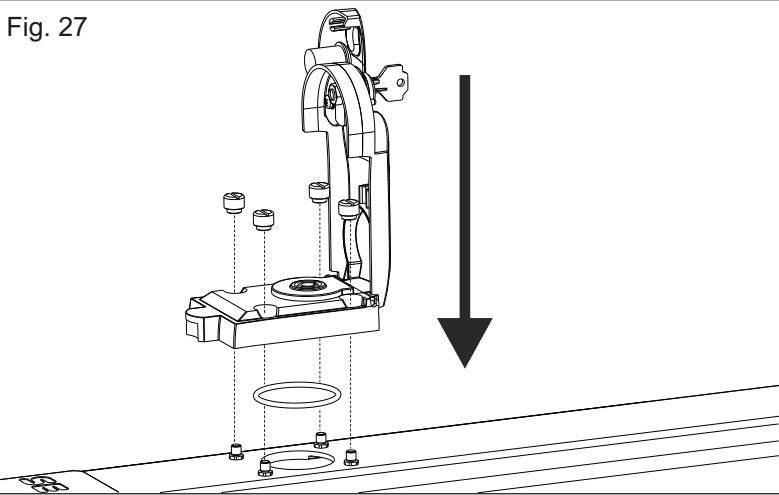

Fig. 27
- Mount the release system as shown in Fig. 27